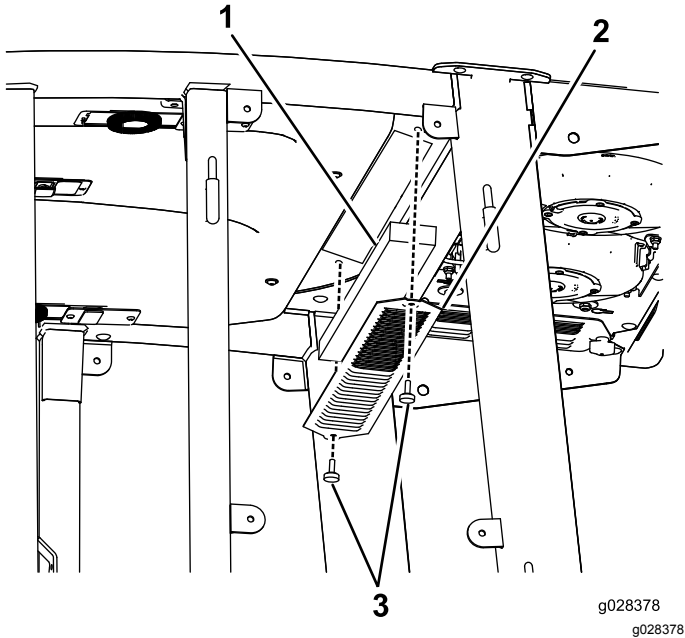

Figure 117
1. Remove the screws and grates from both the in-cab and rear cab air filters (Figure 117 and Figure 118).